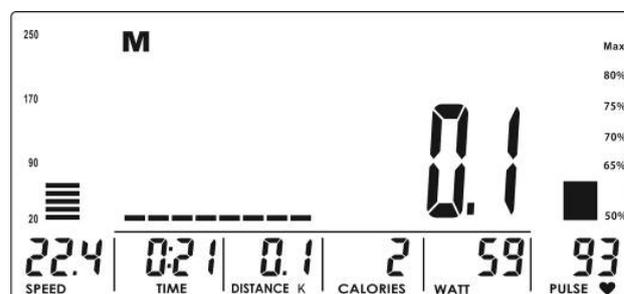

Figure 9
- (4) Press START/STOP to start the training. During the training, the intensity level can be adjusted with the UP or DOWN buttons. When the intensity level is displayed in the WATT window, the value cannot be adjusted for three seconds. It switches to the display WATT (fig. 9).
- (5) Press START/STOP to pause the training. Press RESET to return to the main menu.